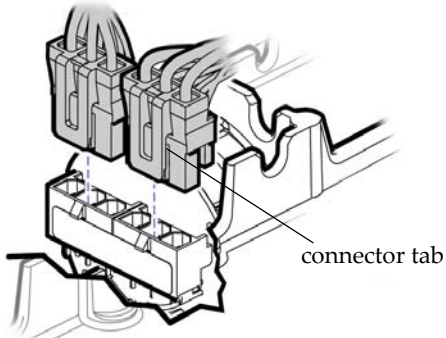

Figure 11-1: Disconnect CU Motor Harness from Motor
5. Disconnect (2) CU motor harnesses from motors (one per motor). See Figure 11-1.